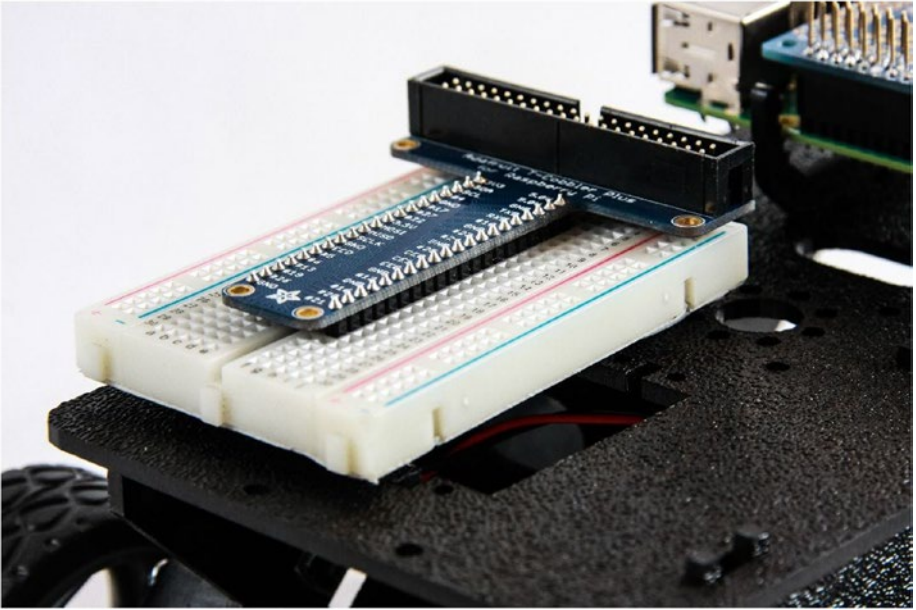

Figure 7-13. *Mounted breadboard. Note that the T-cobbler has been moved forward to allow room for the power pack.*
3. Remove the protective paper from the bottom of the breadboard and press the breadboard firmly into the T-shaped tape on the top plate (see Figure 7-13).